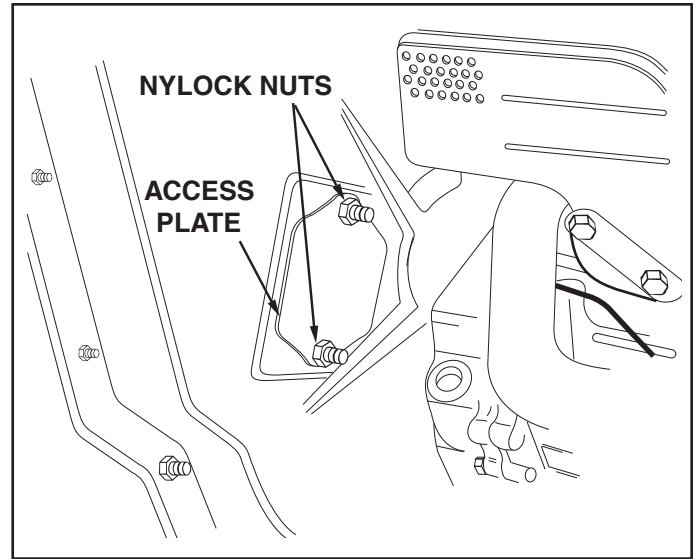

FIGURE 18
2. Remove the access plate by removing two hex lock nuts. See figure 18.